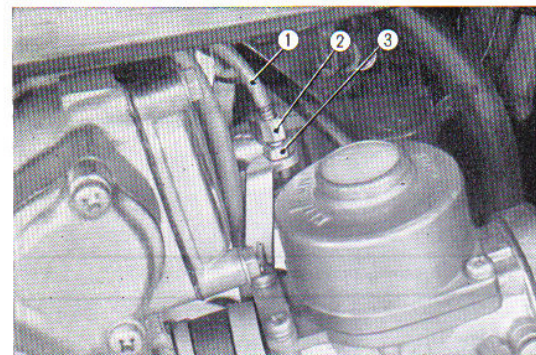

Fig. 4.6 Removing the throttle cable
4. Disconnect the throttle cable at the lower end by loosening the cable setting nut at the cable support arm on the carburetor and then disconnecting the throttle cable from the carburetor. (Fig. 4.6)